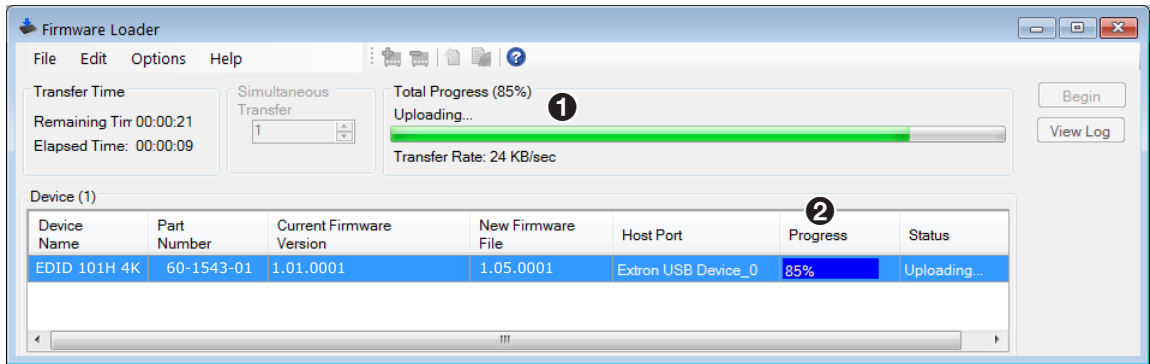

Figure 24. Firmware Loader Progress Bar
The **Total Progress** bar visually tracks the uploading progress (see figure 24, 1) and the **Progress** column (2) displays the percentage of completion.